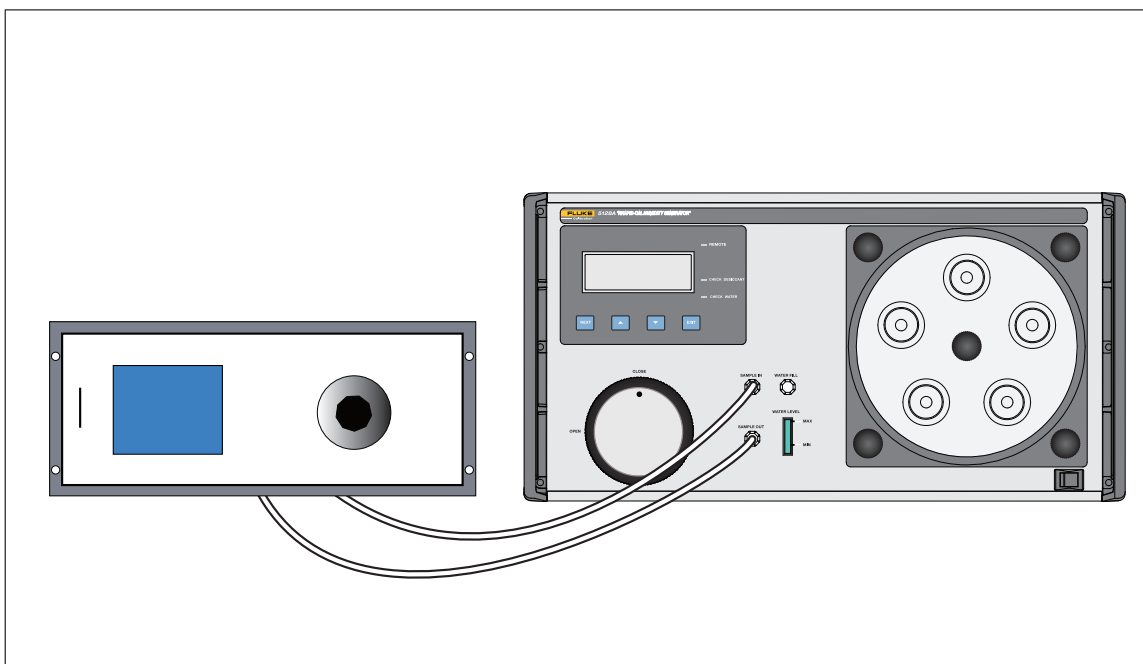

Figure 10. Connections
- A gas sample from the Sample Out port can be drawn with a chilled mirror that has a pump, returning the gas into the Sample In port. A flow rate of 0.1 liters to 0.5 liters per minute is usually adequate. Ensure the chosen flow rate does not cause excessive chamber temperature non-uniformity. Use PTFE or stainless tubing for best results. See Figure 10.